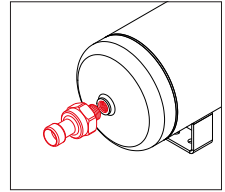

Fig. 5: Air tank
2. Installation directly into the air tank (Fig. 5)
When installing the sensor in the tank, ensure that the pressure sensor is installed near the top of the tank. Also, make sure that the electrical connection on the pressure sensor is not facing downwards (Fig. 5). Otherwise, the sensor may be damaged by condensation in the tank.